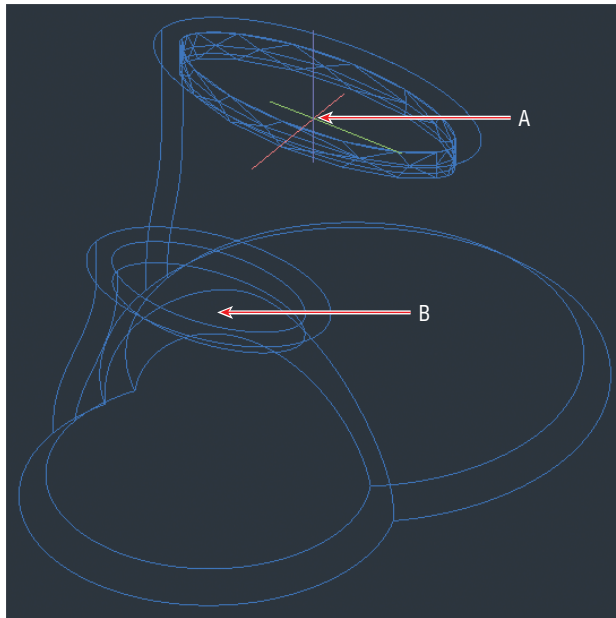

FIGURE 17.27 Using Presspull to remove the tops of the ventilation towers
6. Select the Presspull tool on the Solid panel. Click point A in Figure 17.27, type **-1**, and press Enter. Click point B, type **-1**, and press Enter twice more.